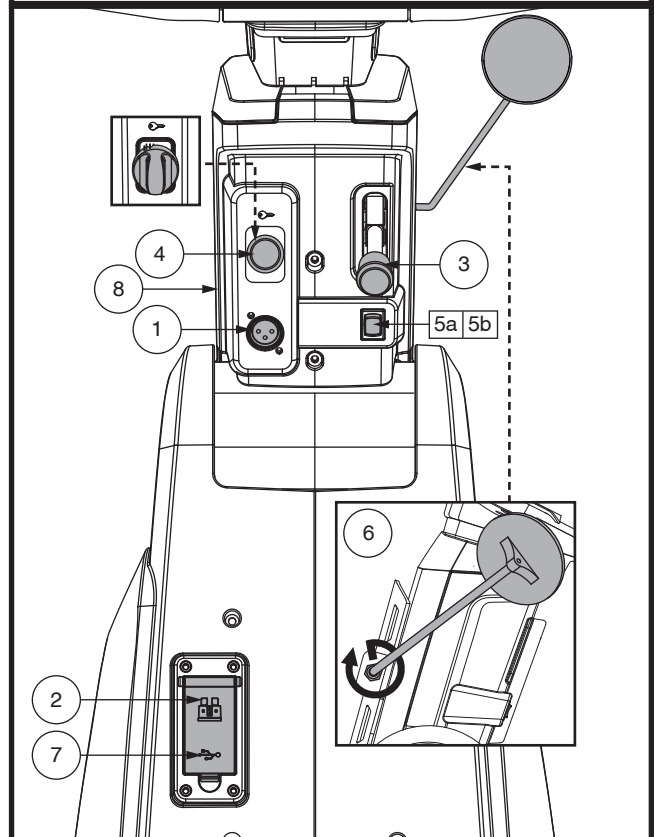

Figure 4. Lower Tiller Components
The off-board charger power cord plugs into this port during battery charging. The off-board charger port will be located on the tiller. See figure 4.
- Insert the key into the key switch and turn it clockwise to power up (turn on) your scooter. See figure 4.
This switch dictates which throttle control lever (left or right) will function. See figure 4.